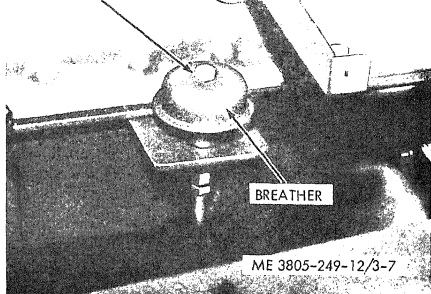

Figure 3-7. Axle breather.
(1) Remove the nut securing the breather (fig. 3-7) in position and remove the breather.